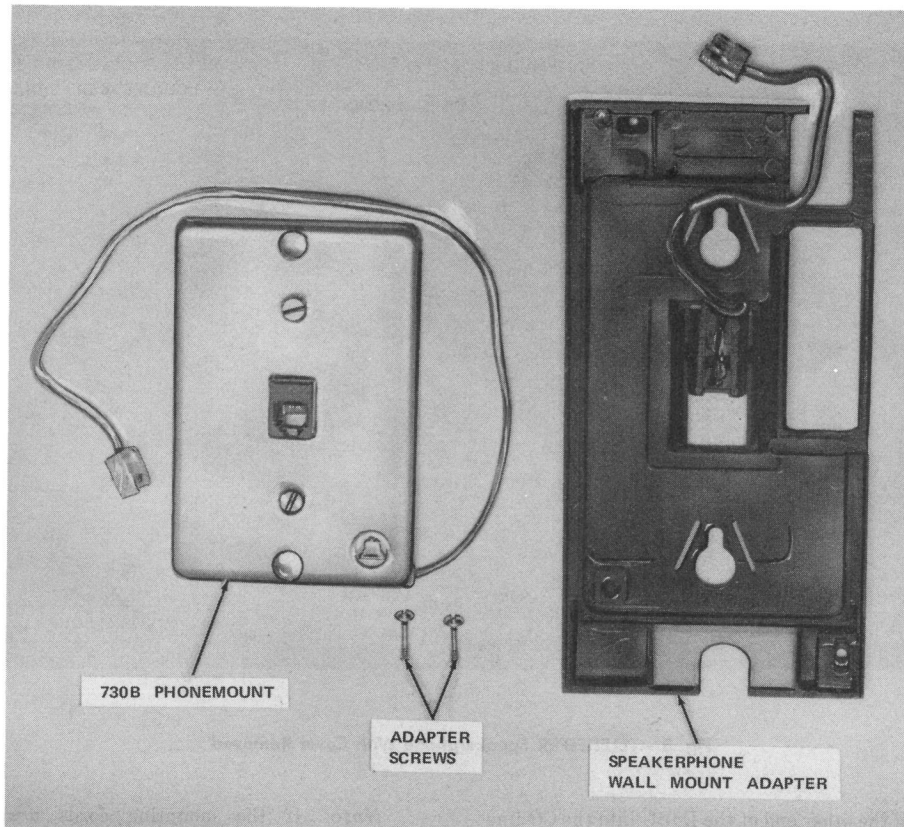

Fig. 2—D-181062 Kit of Parts Used When Wall Mounting Speakerphone
**2.04** **Auxiliary Relay** feature provides a contact closure for operation of an auxiliary relay key telephone unit when it is desired to cut off several signals (Fig. 2).
**1.03** A D-181062 Kit of Parts is required when the speakerphone is to be wall mounted in conjunction with a wall telephone set (Fig. 2).
**C. Wall Installation Using D-181062 Kit of Parts (Fig. 2)**